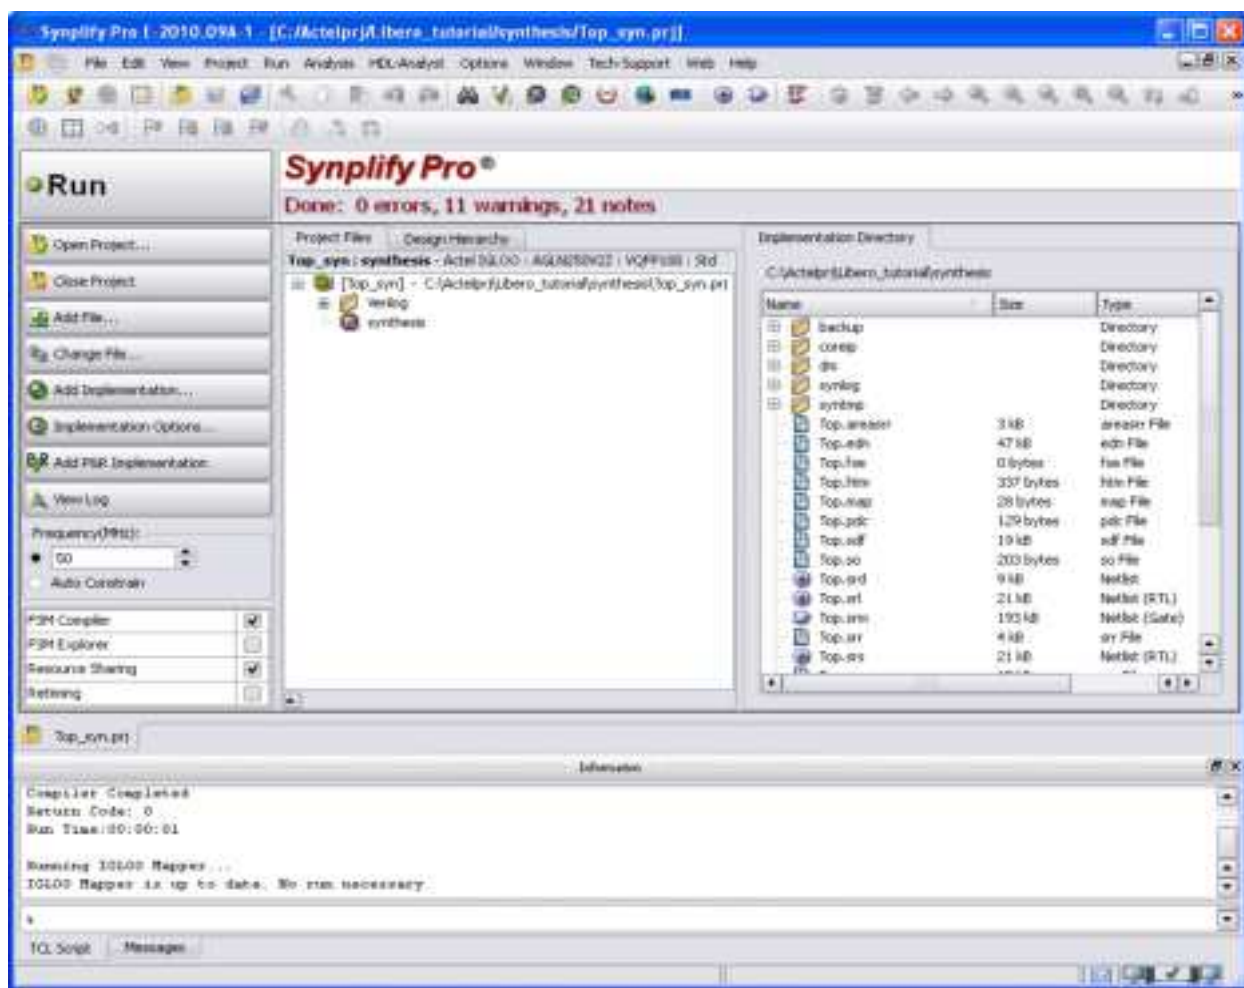

Figure 1-30 • Synplify Pro GUI
2. Change the **Frequency** in the Synplify Pro GUI to 50 MHz (Figure 1-30).